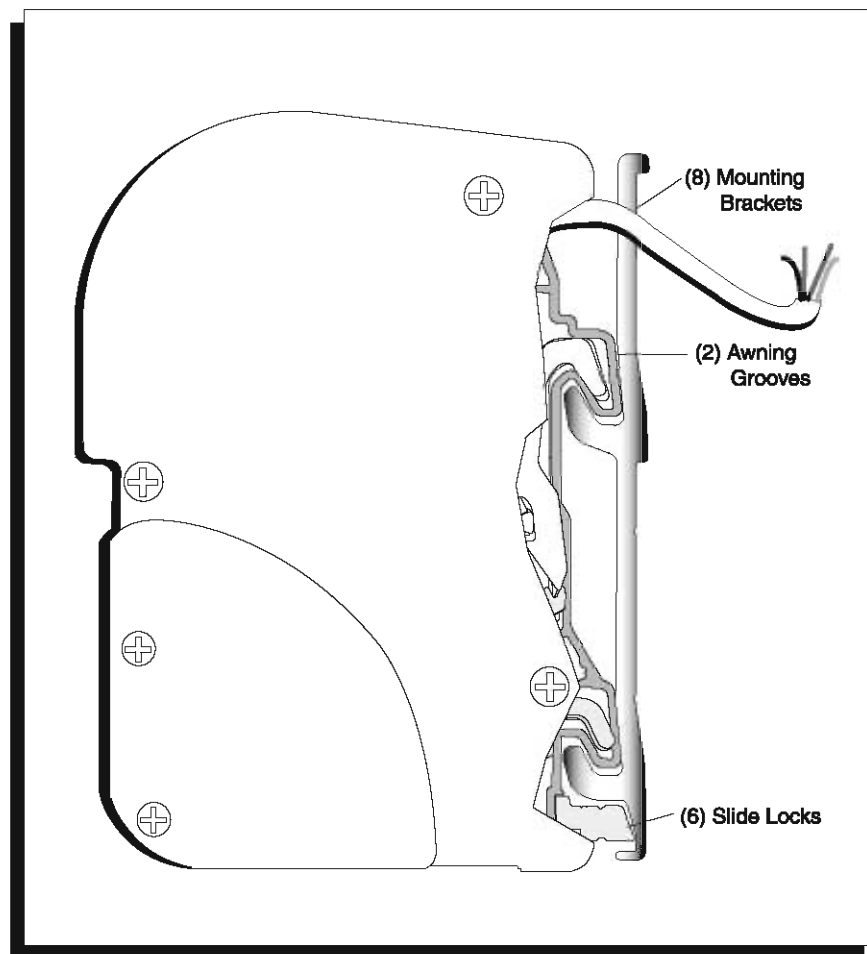

FIGURE 25
2. Place awning onto brackets, ensuring the two (2) grooves in back of awning fall over the two (2) lips on brackets (Fig. 25) while feeding awning motor cable through previously drilled hole.